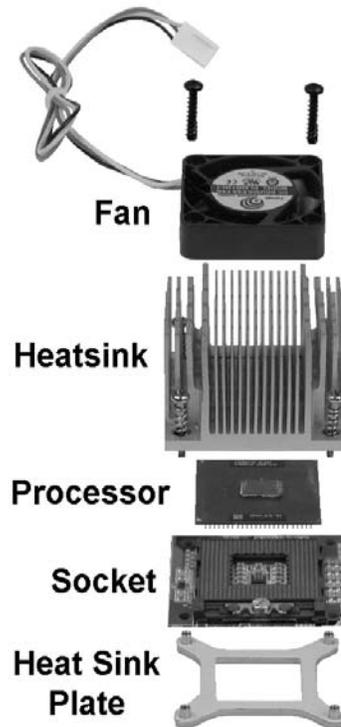

Figure 3-30: 2010 System Board Heatsink Assembly
2. Figure 3-30 shows how the heatsink is attached to the heat sink plate, socket and system board.